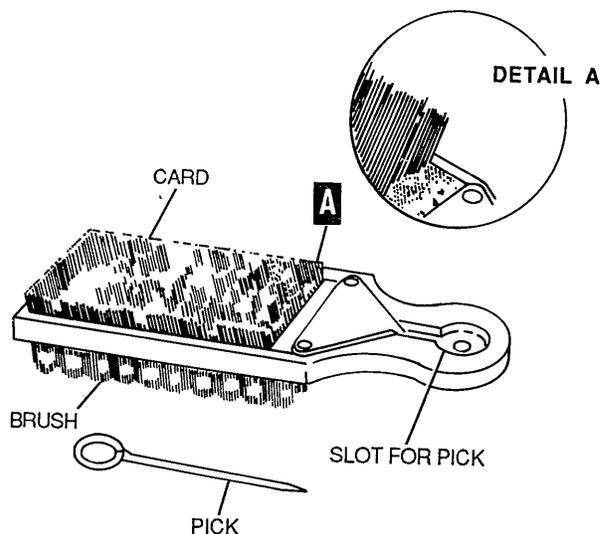

Figure 4-79. File Cleaner
(1) Break in a new file as discussed in paragraph 4-11 d(1).
(2) Clean files using the file cleaner shown in figure 4-79.
(3) Never strike the file against a vise or other object to remove filings. Use the file cleaner.
(4) Do not oil files. This will cause the file to slide across the work, preventing efficient cutting.
(5) Wrap each file in a waterproofed barrier wrapping paper. Place the files in racks or boxes so that the faces or edges of the files will not touch each other.